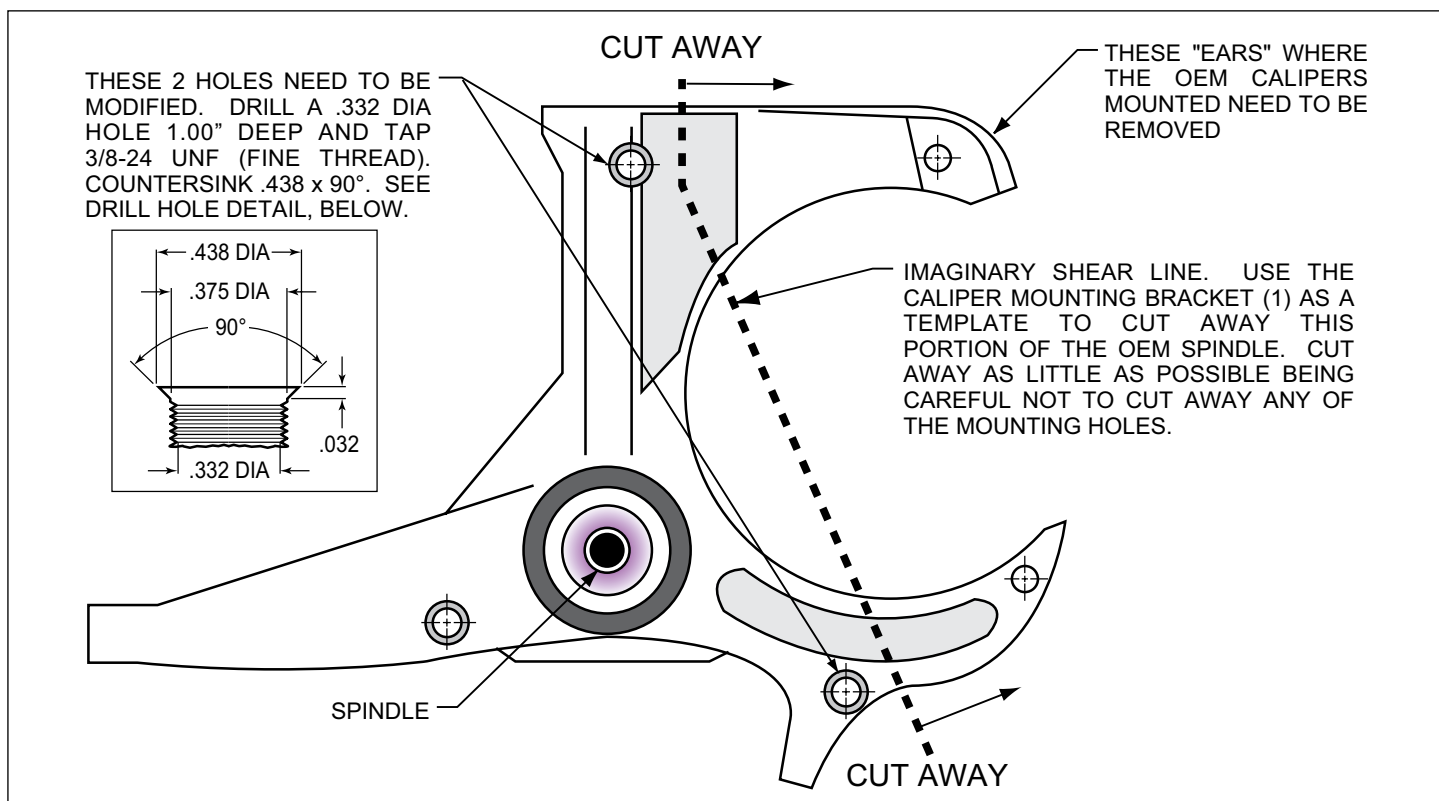

Figure 1. Steering Arm / Spindle Modifications
**NOTE:** These modifications should be performed by a qualified machinist and completed before assembly of the Wilwood disc brake kit begins. Refer to Figure 1 as necessary (numbers in parenthesis refer to the parts list). Only one view of the steering arm/spindle is shown, but the modifications need to be performed on both steering arm/spindles.
The two OEM holes that will be used to mount the caliper mounting bracket (1) need to be modified. Drill a .332 diameter hole through both holes, Figure 1, then tap 3/8-24 UNF (fine thread). Countersink the holes to .438 x 90°. The "ears" that protrude to form a "C" shape need to be removed to facilitate the installation of the Wilwood kit. Using the bracket as a template, mark two cut marks on the steering arm. Remove as little as necessary from the "C" shape, being careful not to cut away any of the mounting holes required to bolt on the bracket.